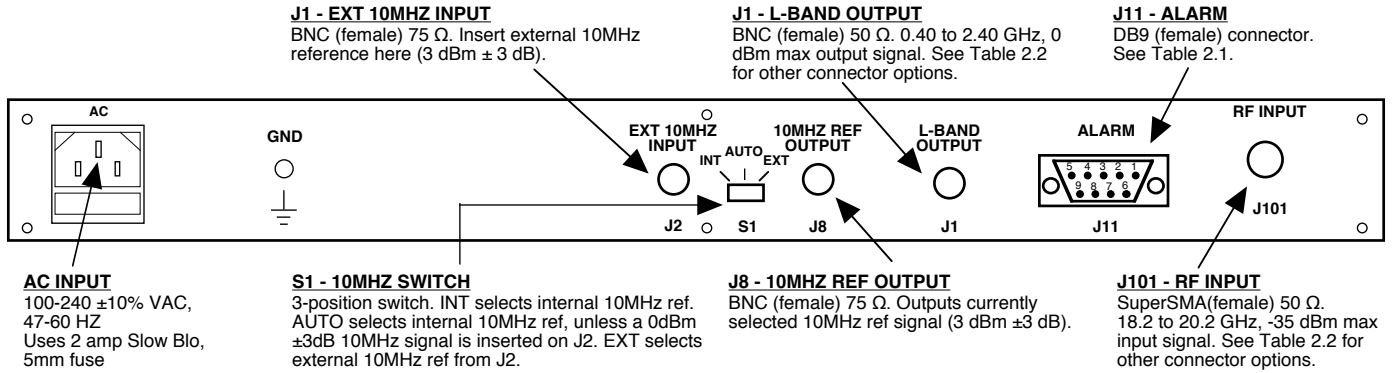

FIGURE 2.1 2116-182202 Rear Panel I/O's
2.2 Rear Panel Input/Output Signals - Figure 2.1 shows the input and output connectors on the rear panel.
- 1.) Connect a -55 dBm to -35 dBm signal to RF INPUT, J101 (Figure 2.1).
- 5.) Select either INT (for internal 10MHz ref), AUTO (for internal 10MHz ref UNLESS a external 10MHz, 0 dBm signal is connected to J2), or EXT (for external 10MHz, 0 dBm ref that is inserted at J2) on rear panel switch S1 (Figure 2.1).
- 7.) Check that a 10MHz, 0 dBm \pm 3 dB signal is present at the 10MHZ REF OUTPUT (J8) (Figure 2.1).